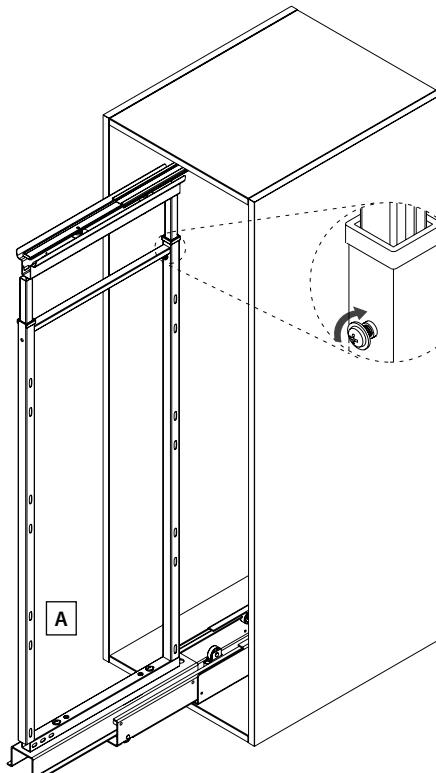

fig. 7
- 8)** Tighten the two screws in figure 7.